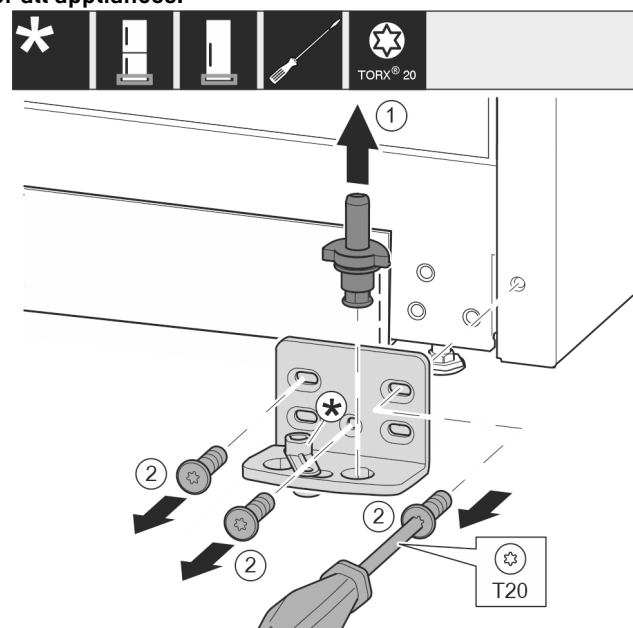

Fig. 12
- Lift the bearing pin completely upward and pull it out. Fig. 12 (1)
- Take out the screws with a T20 screwdriver and take off the bearing bracket. Fig. 12 (2)